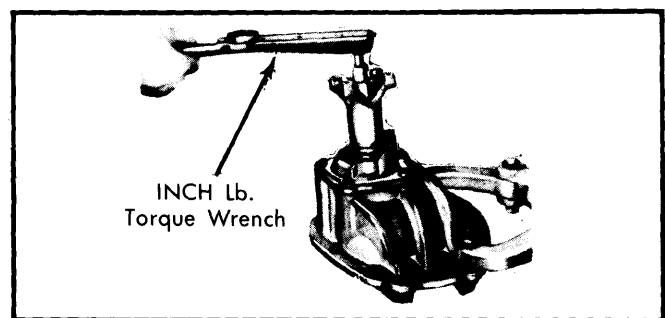

Fig. 3 Checking Pinion Bearing Preload
4) Use INCH lb. torque wrench and note torque required to rotate pinion through several revolutions. If less than desired, tighten nut a little at a time until proper preload is obtained. See Fig. 3.